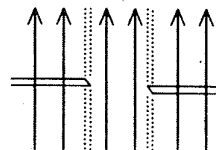

Fig. 9
- E. The glass edge method used in the measuring section provides sharp indentation images, thereby ensuring accurate measurement. (Fig. 9)